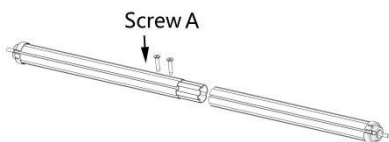
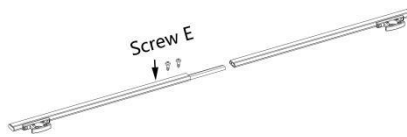

Figure C13
Figure C14
3.5.1 Take out the side curtain roller tube and the matching inner connecting pipes, connect them as shown in the figure, and fix them with self-tapping screws A to form a whole (Figure C13). Take out the side curtain weight bar and the matching inner connecting pipes, connect them as shown in the figure, and fix them with self-tapping screws E to form a whole (Figure C14).